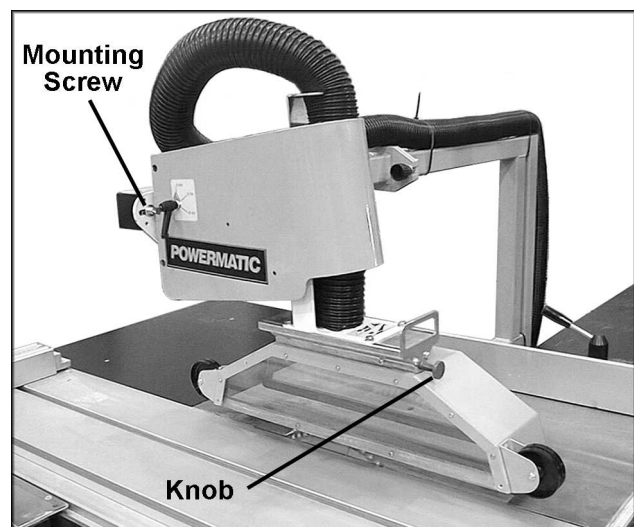

FIGURE 13
1. Mount the guard's upper piece to the over-arm as shown in Figure 13, with the two socket head cap screws through the threaded holes in the arm. The guard bracket has slots for adjustment if needed.
3. The hose from a dust collection unit should be mounted as shown in Figure 13, and secured to the over-arm to keep it out of the operator's way; (plastic twist-ties work well for this).